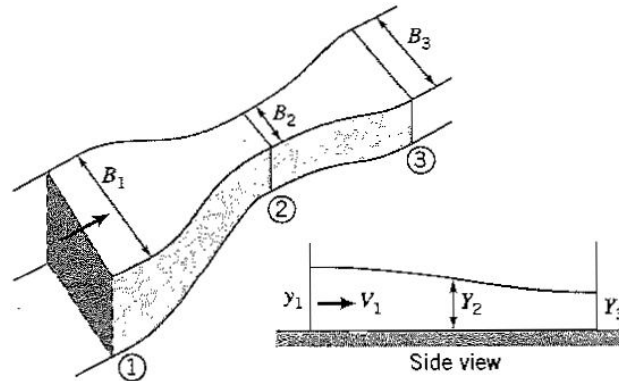

Figure P10.25
10.25 Consider the steady, frictionless open channel flow of water through the constriction, as shown in Figure P10.25. At position 1, the depth is Y_1 , the velocity is V_1 and the Froude number is $F_1 = V_1/\sqrt{gY_1}$. A similar notation is used at position 2 (the throat), and